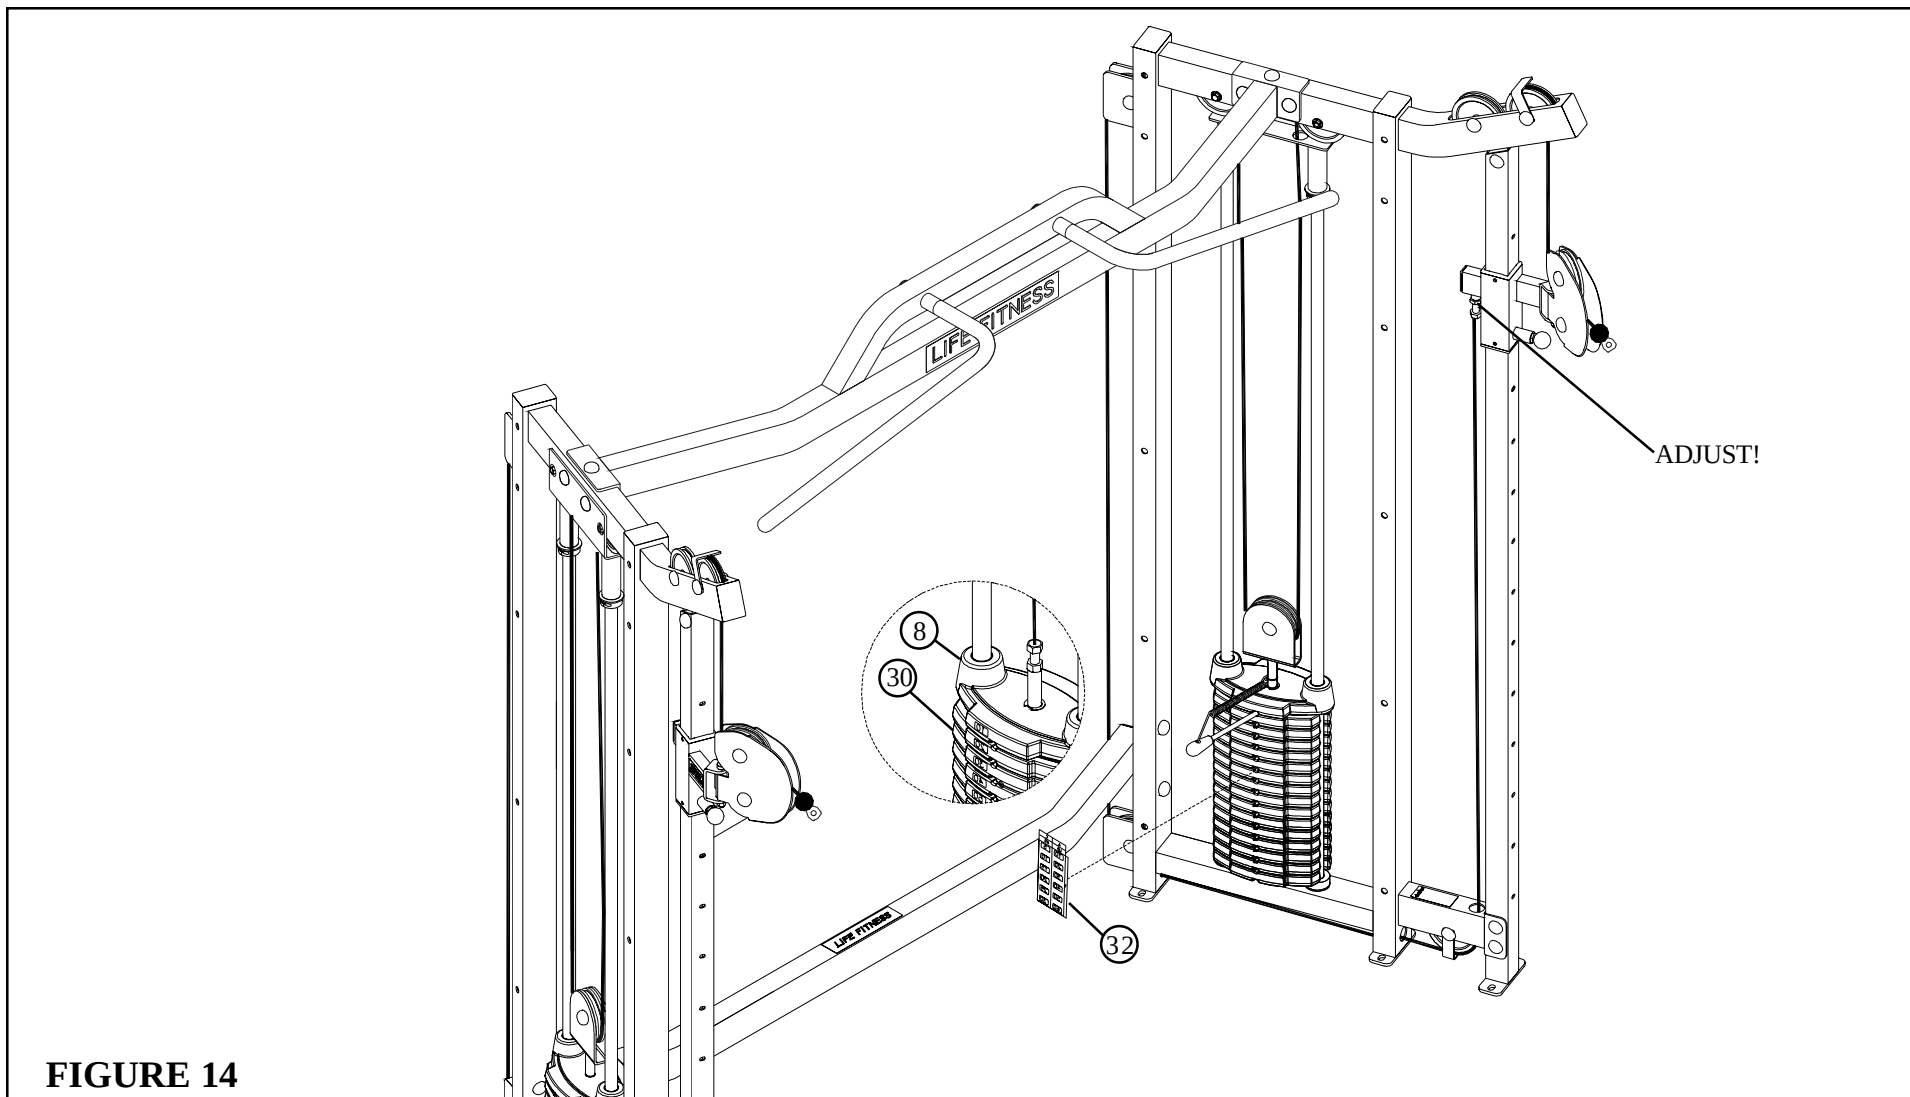

FIGURE 14
- Peel the backing off the WEIGHT STACK LABELS (32), line up sheet to the right of the selector opening and apply labels to the WEIGHT PLATES (30), starting with the HEAD PLATE (8) as shown in FIGURE 14. **(NOTE: The WEIGHT STACK LABEL sheet (32) includes labels for both lbs. and kgs. for both the standard and optional weight stacks.)**
- Insert the WEIGHT STACK PIN into the WEIGHT STACK as shown in FIGURE 14.
- If the HEAD PLATE (8) does not sit on top of the first WEIGHT PLATE (30), push the head plate down, insert the WEIGHT STACK PIN and perform several repetitions on the machine. This will relax the cable system and prevent the HEAD PLATE (8) from lifting up.
- If after completing previous step the HEAD PLATE (8) still does not sit on top of the first WEIGHT PLATE (30) or if there is excess slack in the cable system, adjust the threaded end of the CABLE going into the SWIVEL PULLEYS (6 & 7) accordingly and retighten the jam nut.